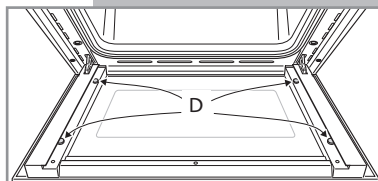

Fig. 25
- Check that the four rubber pads are in place (**D** in Fig. 25).